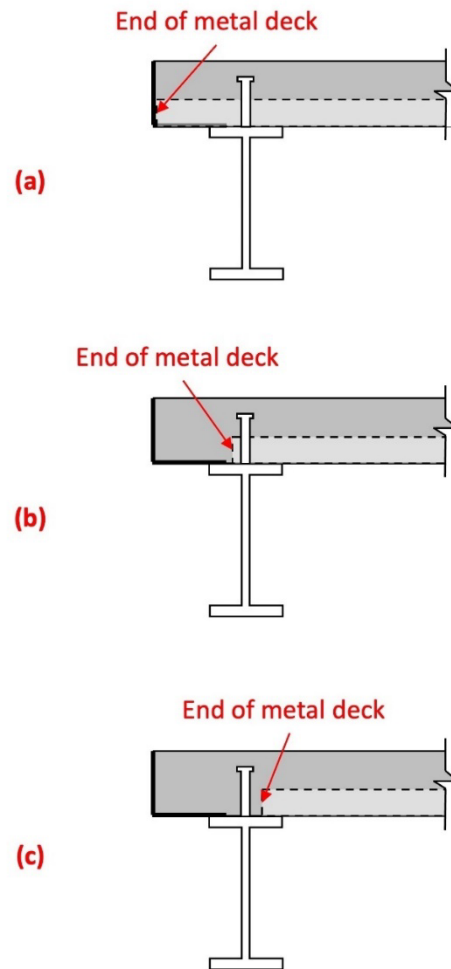
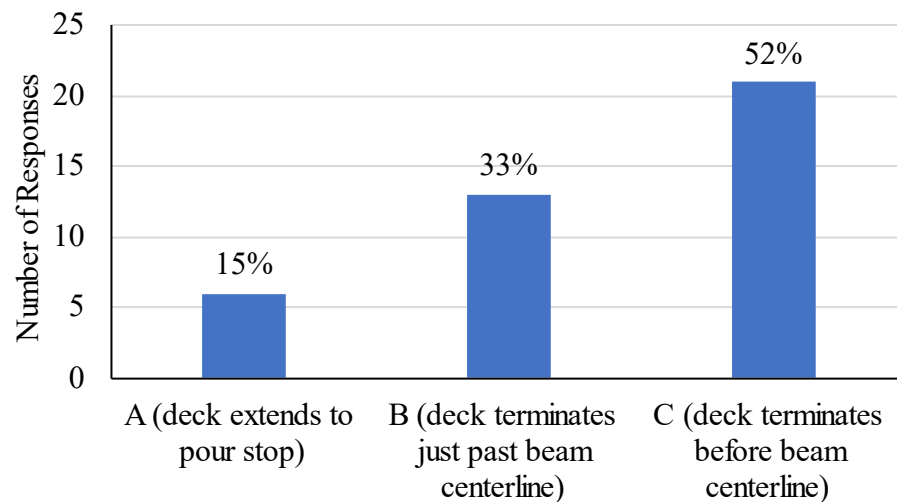
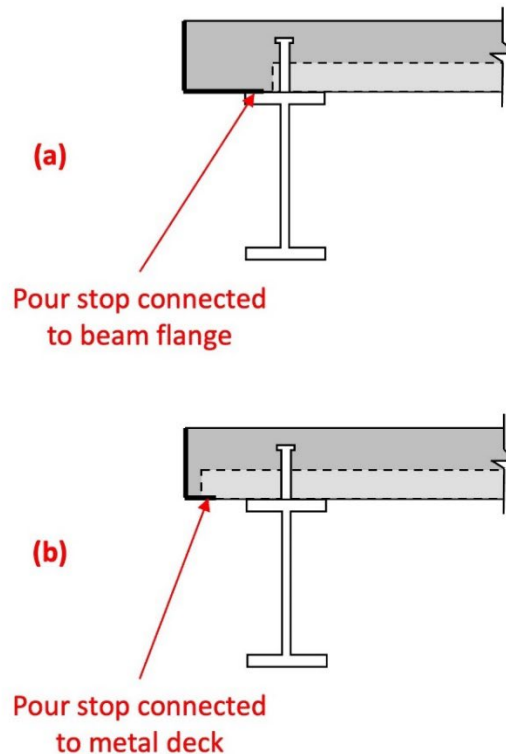

Figure 5. Drawing associated with Question 2 related to deck termination.
Figure 6. Responses related to deck termination in Question 2.
Figure 8. Drawing associated with Question 7 on how the pour stop is typically connected.
Some respondents answered that they typically use more than one of the details described Figure 5 depending on the conditions, such as overhang length, flange width, demands on the steel deck, and deck orientation. However, as shown Figure 6, Detail (a) in Figure 5 is not commonly used, with some respondents explaining that they often do not use nor have seen it used for overhang lengths of 12 in. or less and deck ribs perpendicular to the beam. However, a few
The preferred detail is Detail (a) shown in Figure 8, which is used by 89% of the respondents. This trend is consistent with the responses to Question 2, which indicate that the steel deck typically does not extend beyond the edge beam. The pour stop is typically connected to the beam flange with welding methods such as fillet weld, arc spot weld and tack weld. Or, as mentioned by three respondents, bent plate pour stops are shop bolted with slotted holes for
For Detail (a) in Figure 8, the connection details are described by respondents as:
One respondent said that they used a detail different than Details (a) and (b) in Figure 8, with light gauge pour stops placed on top of and screwed to c-shaped cell closures.
The remaining 11% (four respondents) use Detail (b) in Figure 8. Three of these respondents also specify their deck to extend all the way to the pour stop as described in Detail (a) in Figure 5 for Question 2. One said that although Detail (b) in Figure 8 was their typical detail,
- Detail (a) in Figure 5 would not be used.